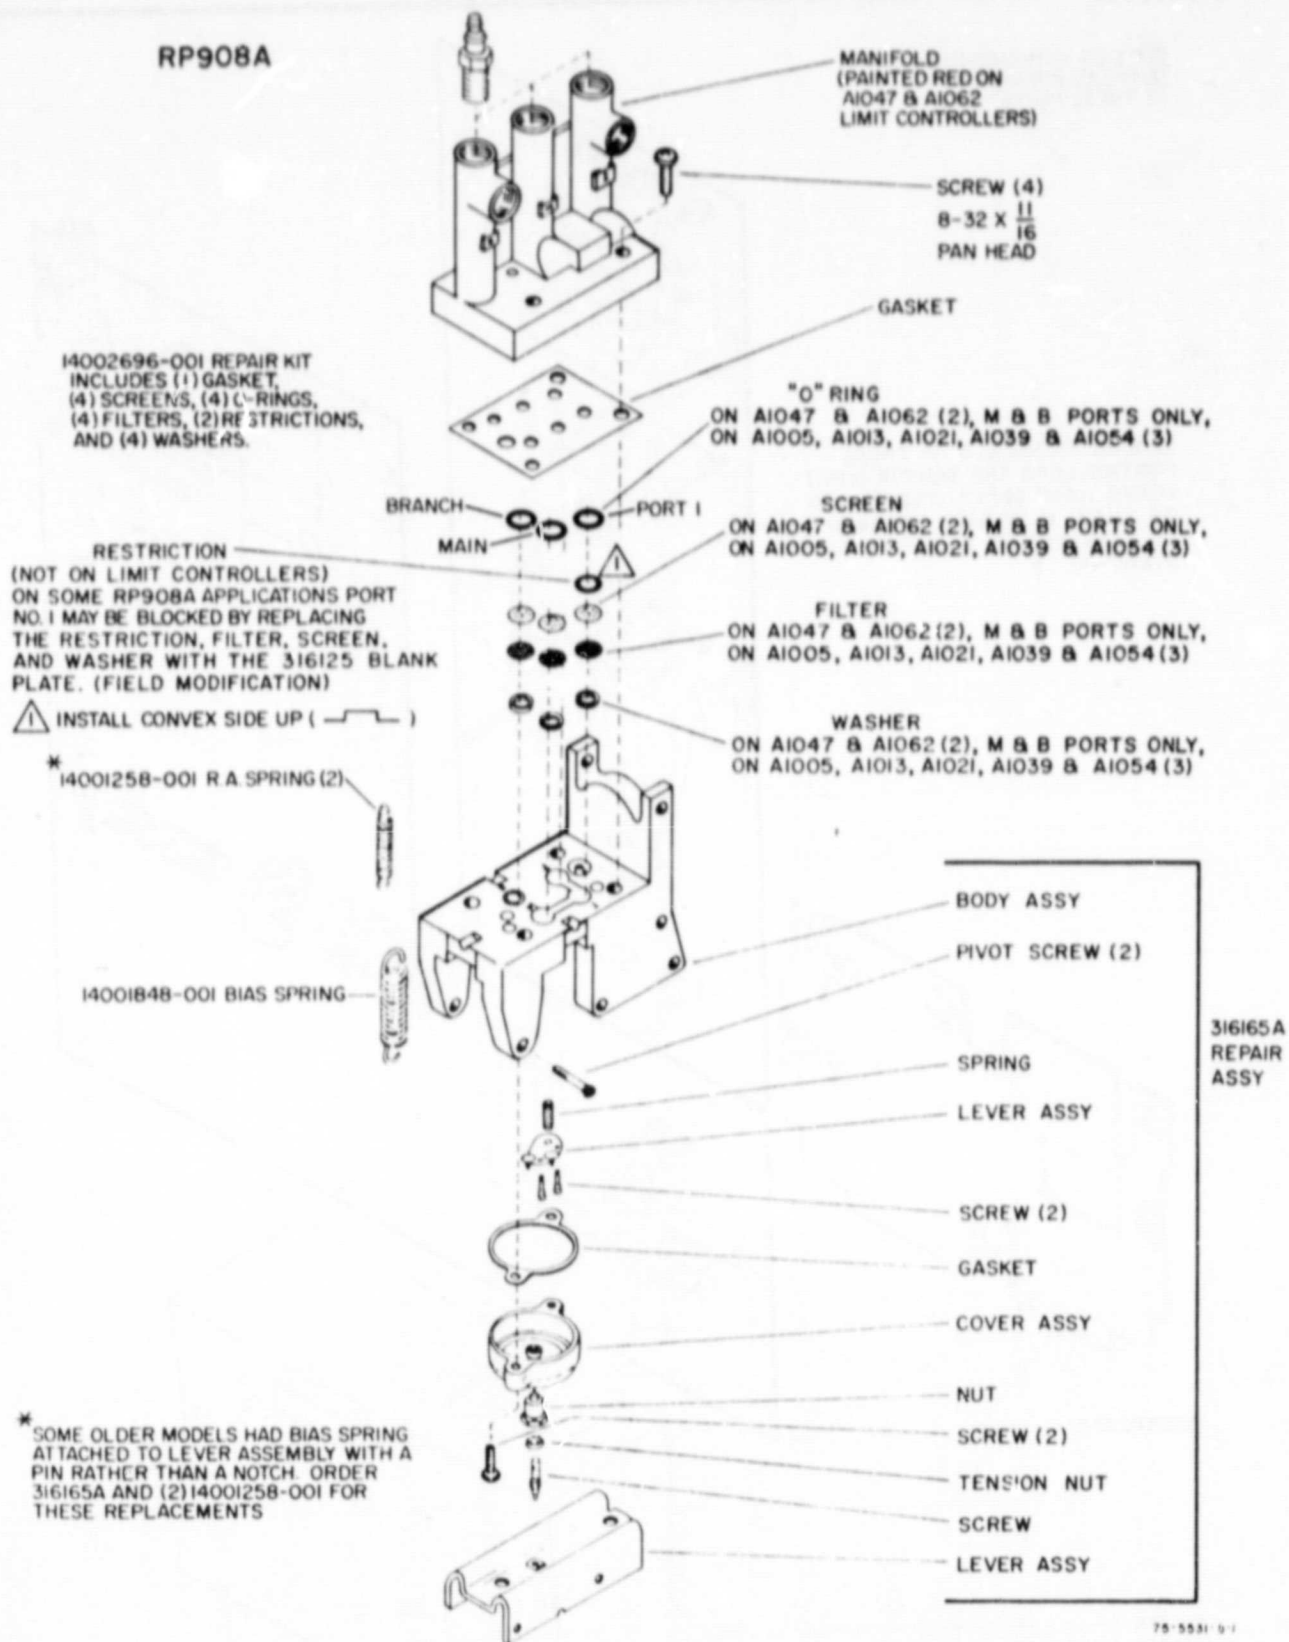
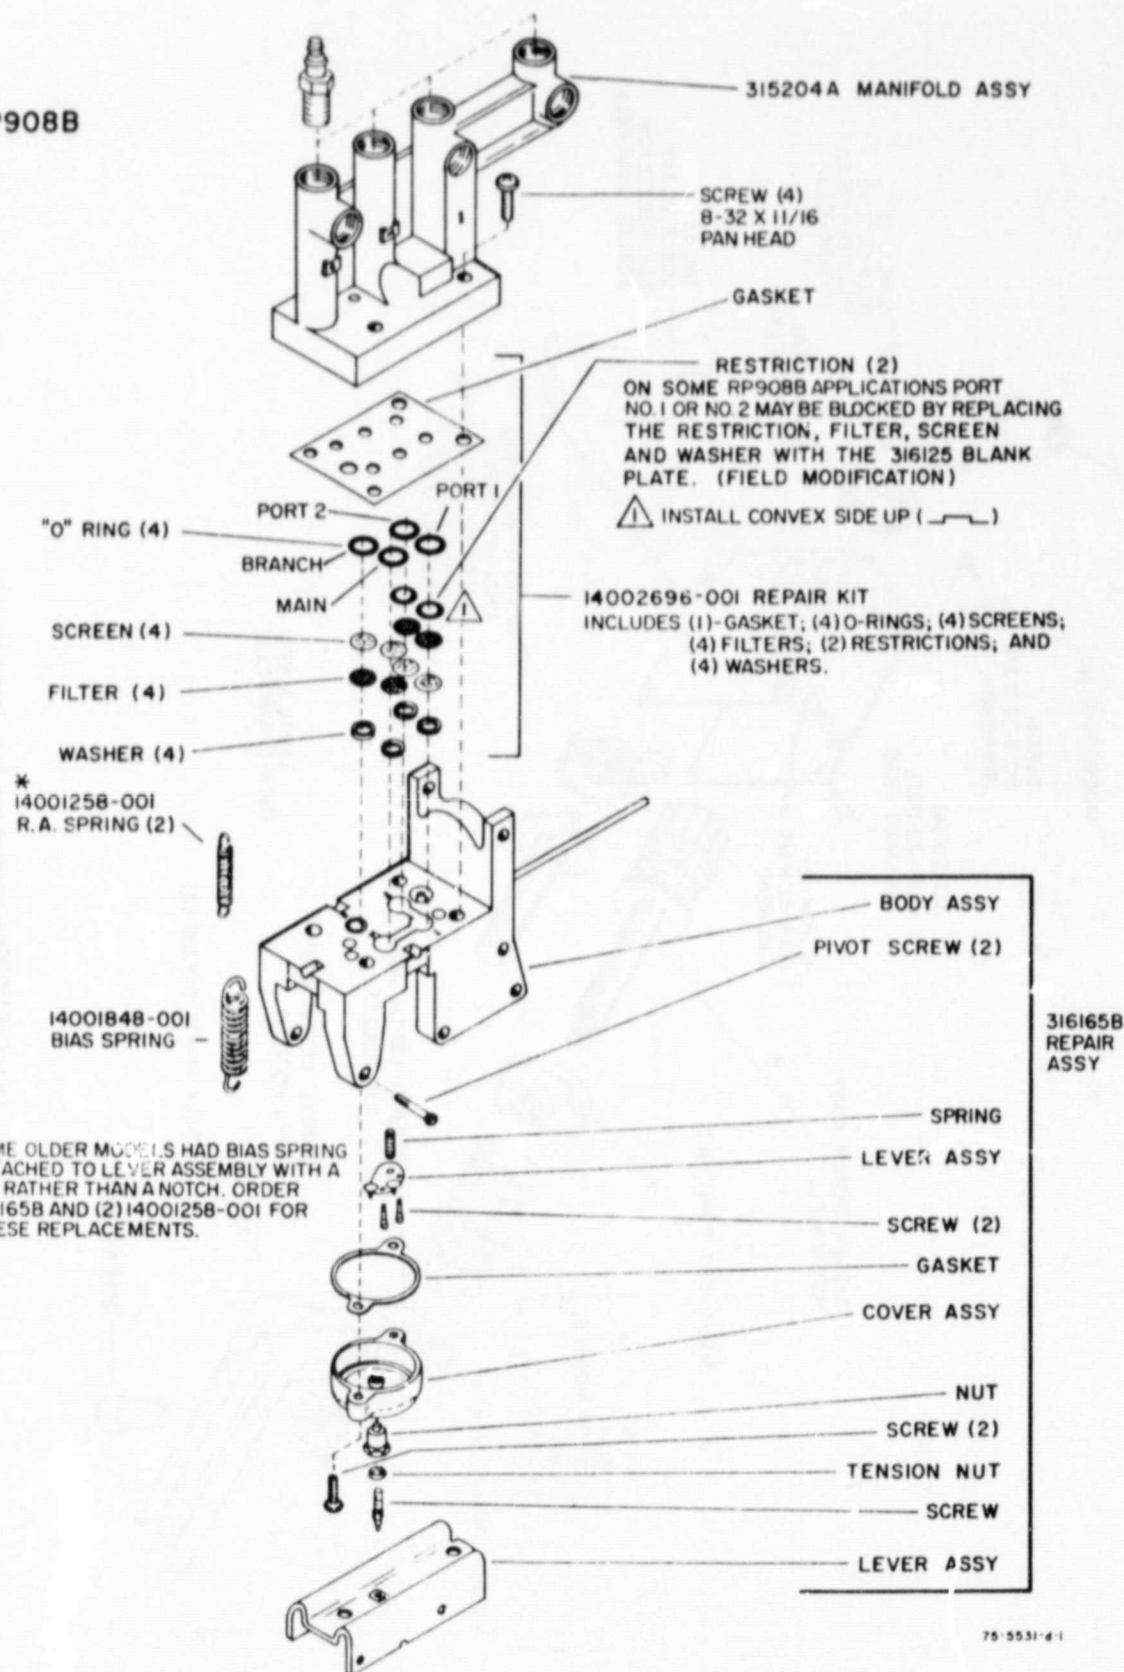

Fig. 10. Detail of RP908A Manifold and Body Assembly.
Fig. 12. Detail of RP908B Manifold and Body Assembly.
1. Remove four (4) manifold screws and save.
7. With the new parts from the kit, install the washers, filters, screens and restriction(s). See Figure 10 for RP908A and Figure 12 for the RP908B.
SEE FIGS. 10 THRU 13 FOR